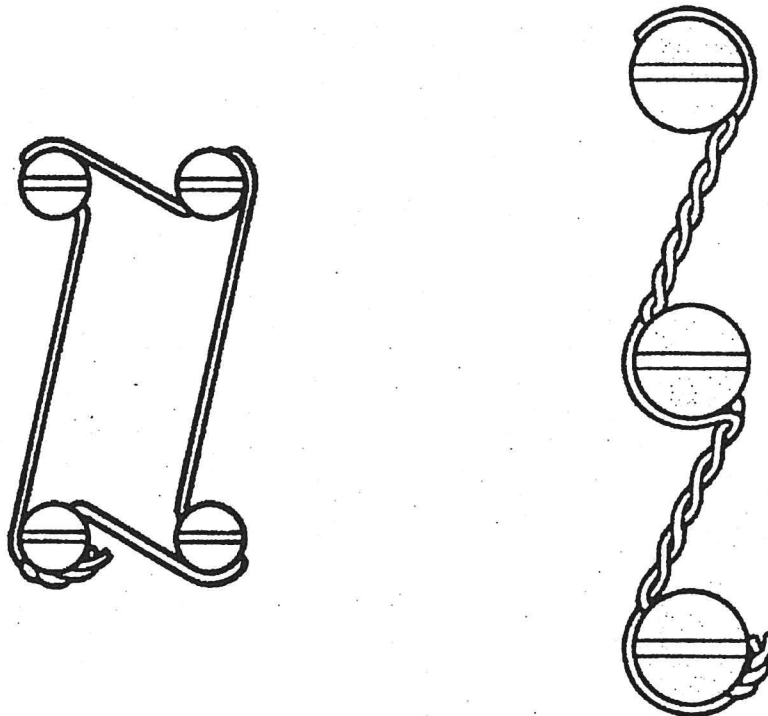

Fig.1 Wire Locking Techniques
- 4.3 Due to the small number of safety wire locked bolts used on the car standard pliers will be used to twist the wire. The wire must not be under or over tightened. The twists should be tight and even. Over tightening will stretch the wire and destroy its properties - under tightening will leave the wire loose and a danger the locking function will fail. There should be between 4 to 5 twists per inch, and the wire should be fully twisted between the bolt heads. When completed the wire should be tight enough to prevent the bolt slackening and also from slipping from the head of the bolt. The correct wire locking techniques are shown in Fig 1.